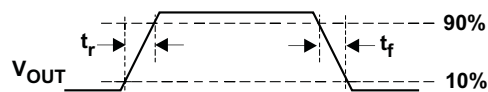

Figure 24. Power-On and Off Timing
| $t_r$  | Rise time, output (3)                   | $C_L = 1\text{ }\mu\text{F}$ , $R_L = 100\text{ }\Omega$ (see Figure 24)1 A, 1.5 A, 2 A Rated   |  | 0.58       | 0.82               | 1.15 | ms            |
| $t_f$  | Fall time, output (3)                   | $C_L = 1\text{ }\mu\text{F}$ , $R_L = 100\text{ }\Omega$ (see Figure 24)1 A, 1.5 A, 2 A Rated   |  | 0.33       | 0.47               | 0.66 | ms            |